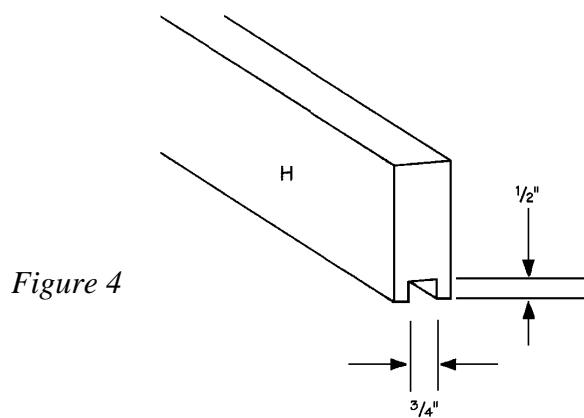

Figure 4
1. Cut two Horizontal Backs (H) from 2 x 4 pine, each measuring 20 inches long.
2. Cut a 3/4-inch-wide dado, 1/2-inch deep down the length of one 20" edge of each of the Horizontal Backs (H), as shown in *Figure 4*.